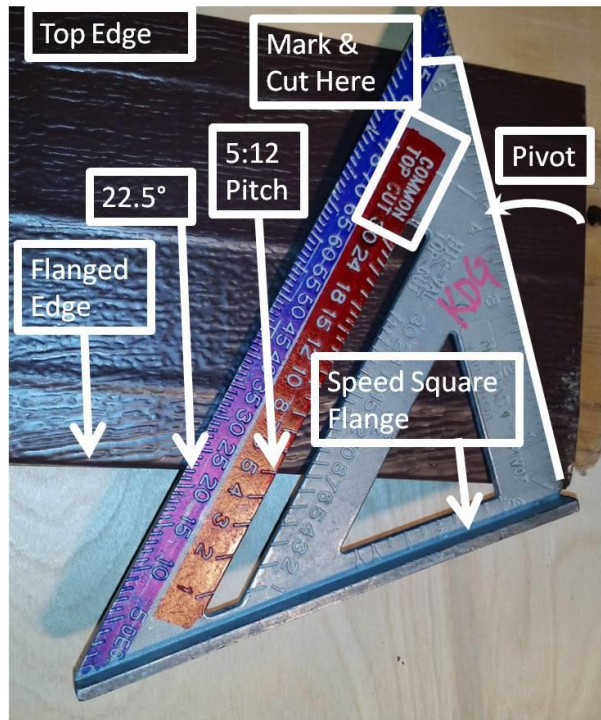

Figure 11-14. Marking Gable End Fascia Angle
8. Position the flange of a speed square along the soffit flange (or along the edge where the LONG point will be) as seen in Figure 11-14. With the square corner of the speed-square against the edge at the length desired, pivot the speed-square at the 90° corner until the “5” on the “Common/Top Cut” (red) scale is aligned with the same edge (e.g. flanged edge). Draw a line along the short edge of the speed square on the face of the fascia.